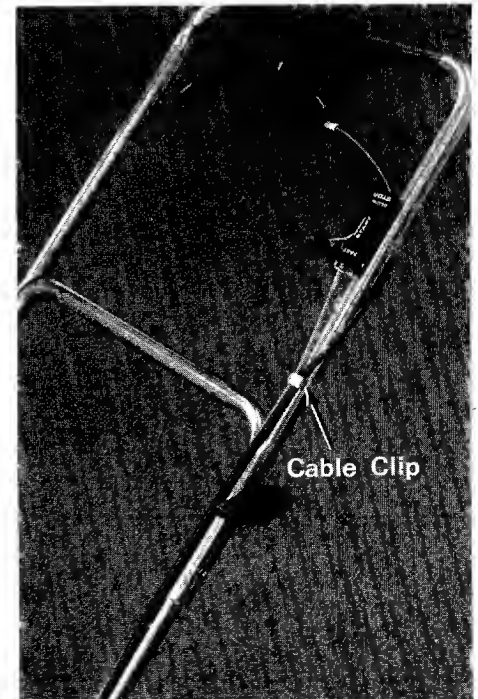

Figure 4
- 6 Secure the throttle control wire and clutch wire to the lower handle with the cable clips. (See figure 4.)